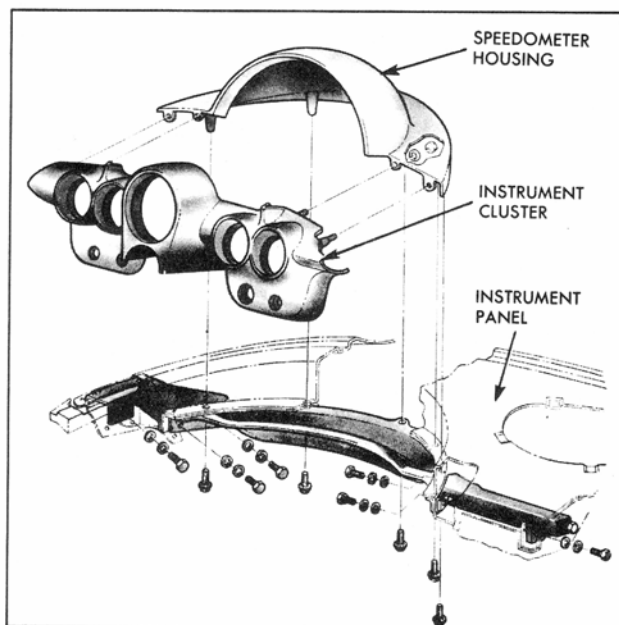

Fig. 10—Exploded View of Instrument Panel
5. From under dash panel, remove the five screws retaining instrument panel assembly to dash panel (fig. 10).
1. Remove four nuts retaining speedometer cover panel to instrument bezel panel (see Figure 10).